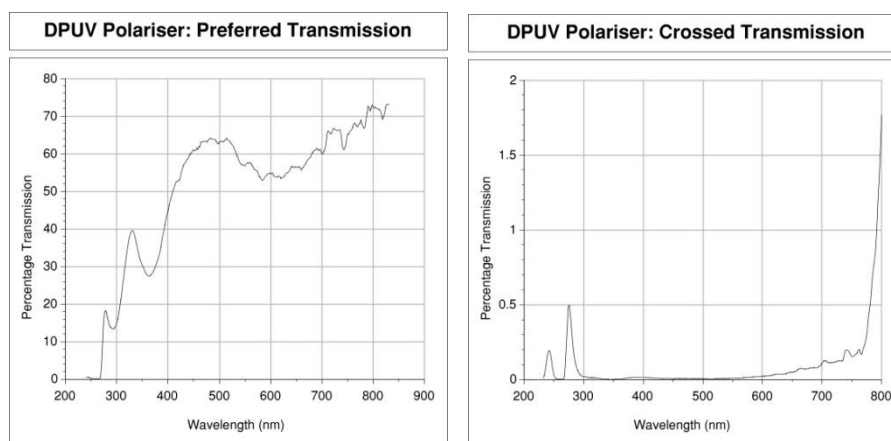

Figure 6-1: fluorescence polarization transmission curves
300 nm to >600 nm+ for DPUV polarisers (see Figure 6-1 for transmission curves).
The DPUV polarisers supplied with your FP.1 accessory provide a good general coverage of the visible and near UV spectrum (see Figure 6-1). They are also well matched to the end-window PMTs currently shipped with the FP.1 accessory. Alternative collection pieces may be developed to suit different experimental requirements. For example: extended UV coverage, enhanced visible transmission, or better performance using interference filters. Such developments may have implications for the detectors used (see item 4 below).